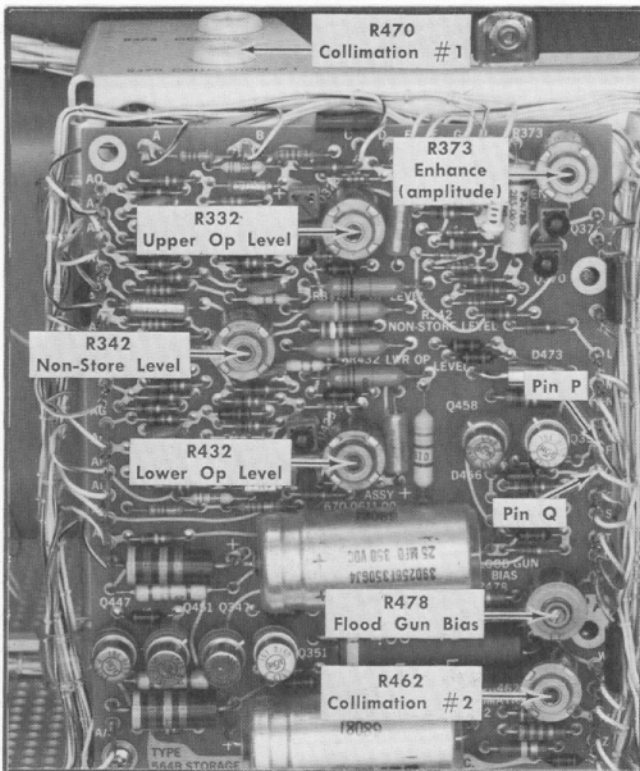
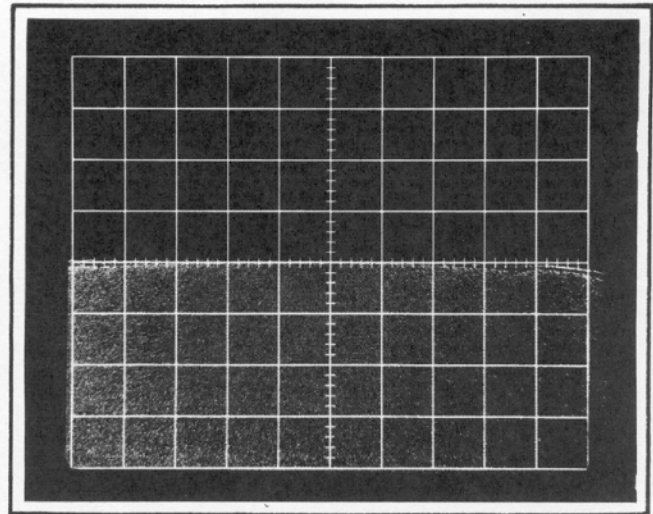

Fig. 5-22. Location of storage controls and test points.
Fig. 5-26. Typical CRT display showing correct adjustment of R342, Non-Store Level.
d. With the screen fully written, rotate R478, Flood Gun Bias (Fig. 5-22), fully counterclockwise. Note the shadows at the corners of the screen (Fig. 5-23A).
- c. With the screens fully written, rotate R470, Collimation #1 (Fig. 5-22), fully counterclockwise, then clockwise to the point where the screens just begin to brighten.
- d. Rotate R462, Collimation #2 (Fig. 5-22), fully counterclockwise.
between pin P of the Storage board (see Fig. 5-22) and ground.
- c. Rotate R332, upper screen Op Level (Fig. 5-22), fully counterclockwise and note the voltmeter reading.
- h. Connect the DC voltmeter, set to the 300-volt range, between pin Q of the Storage board (see Fig. 5-22) and ground.
j. Rotate R432, lower screen Op Level (Fig. 5-22), fully counterclockwise and note the voltmeter reading.
d. When locating the operating point for each target as outlined in the following steps, connect the DC voltmeter to pin P and adjust Op Level R332 for the upper target, and connect the DC voltmeter to pin Q and adjust Op Level R432 for the lower target. These controls and test points are shown in Fig. 5-22.
b. ADJUST—R342, Non-Store Level (Fig. 5-22), for the best division between the two screens, with no background glow on the upper (non-stored) screen. See Fig. 5-26.
d. Rotate R373, Enhance (Fig. 5-22), fully counterclockwise.